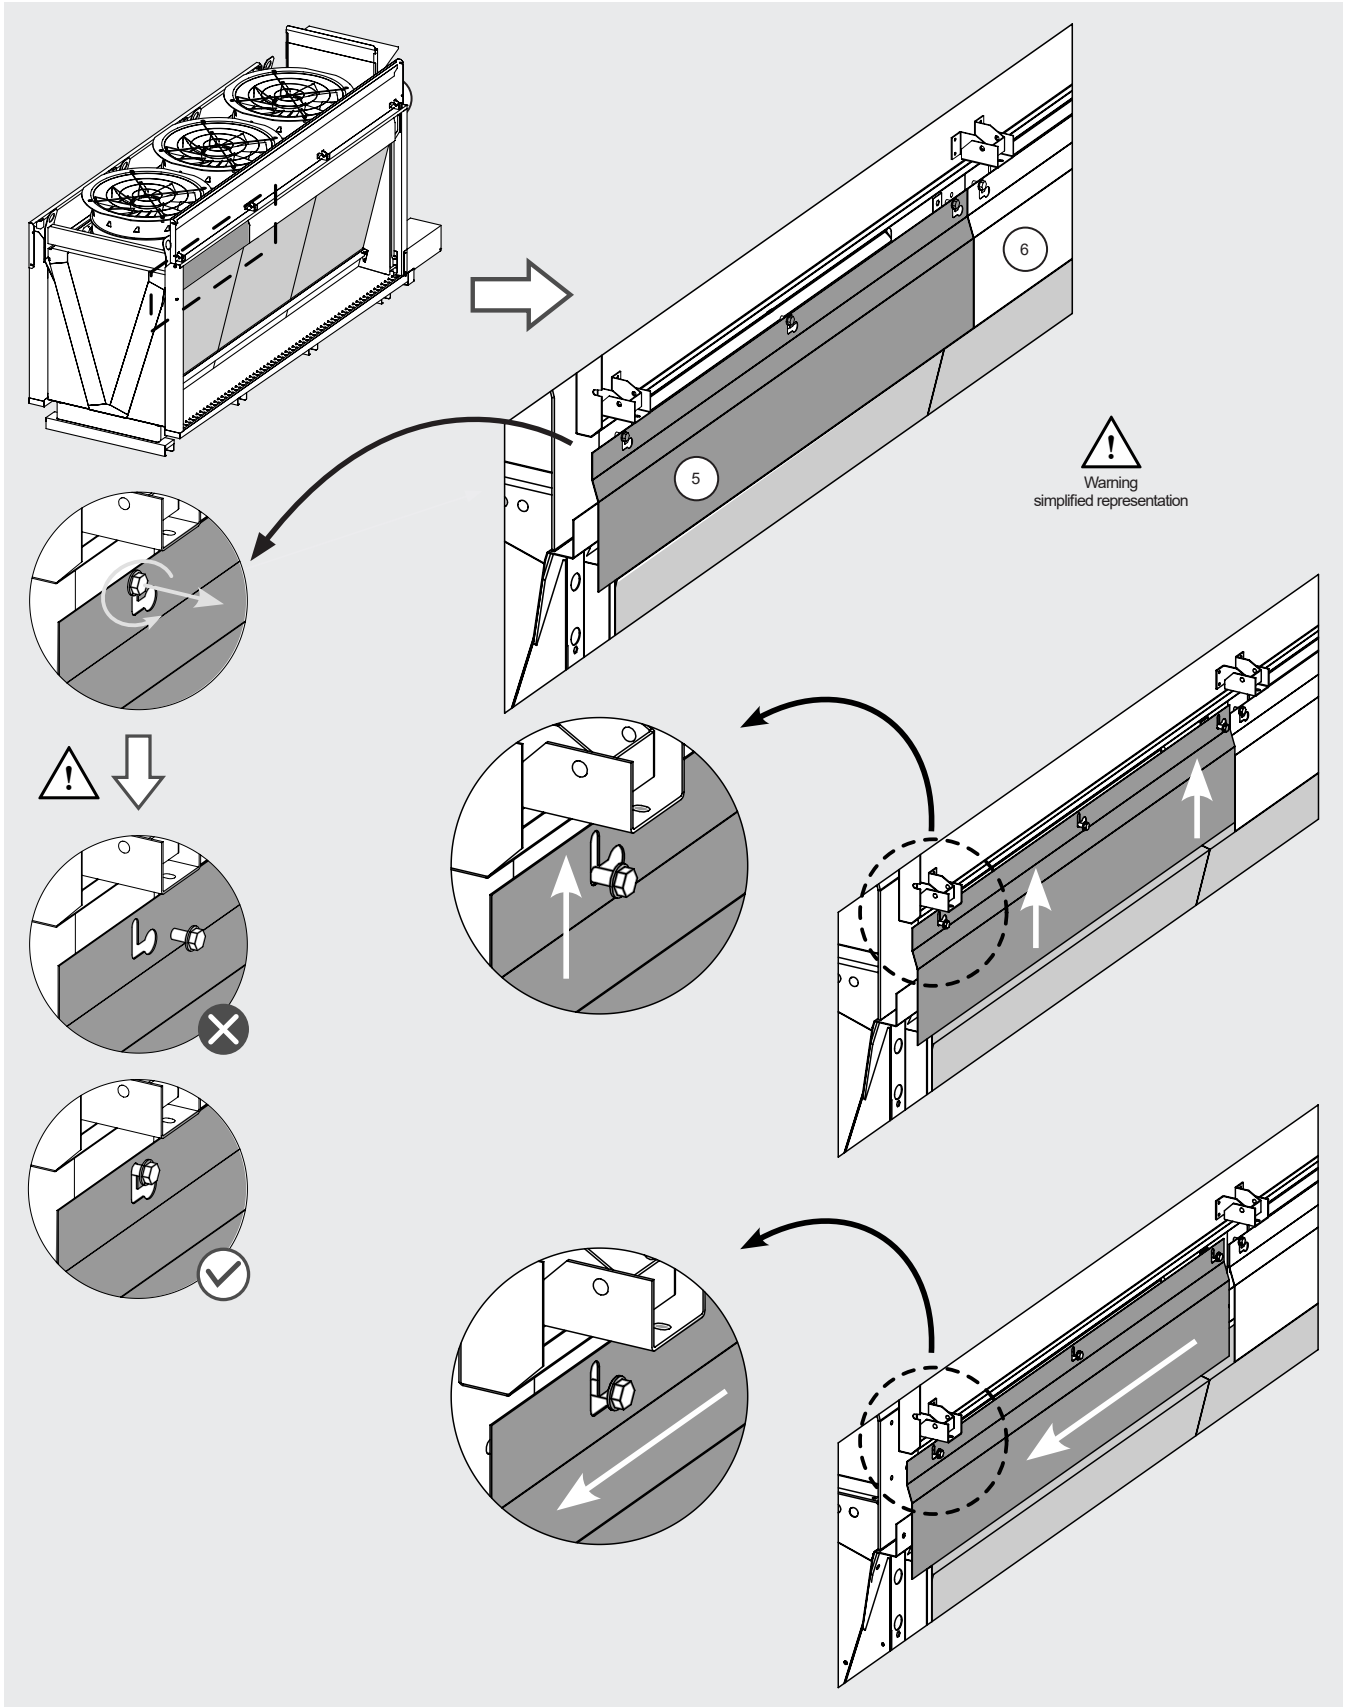

Figure 22
- 12.11.20 Loosen the screws (b) holding the cover (5) and (6) in place without removing them completely. See Figure 22.